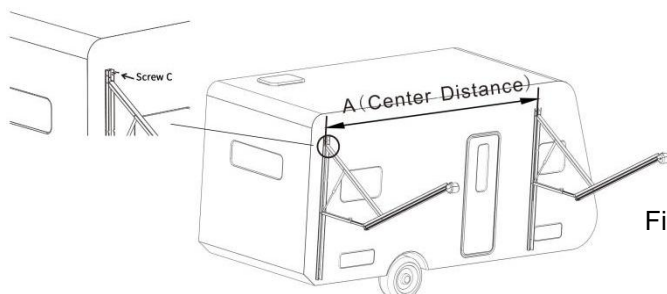
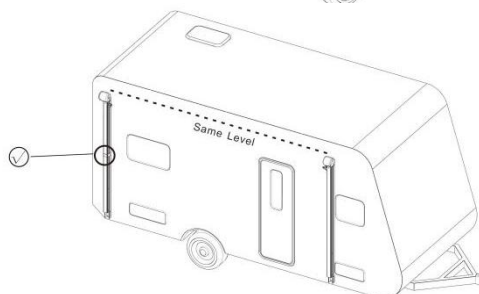

Figure C4
Figure C5
3.2 Use screw C to fix the pneumatic folding arm. Use screw C to fix the pneumatic folding arm (Figure C4), ensuring that the left and right folding arms are vertically aligned and at the same horizontal height. After installation, push back the arm and secure it. (Figure C5)